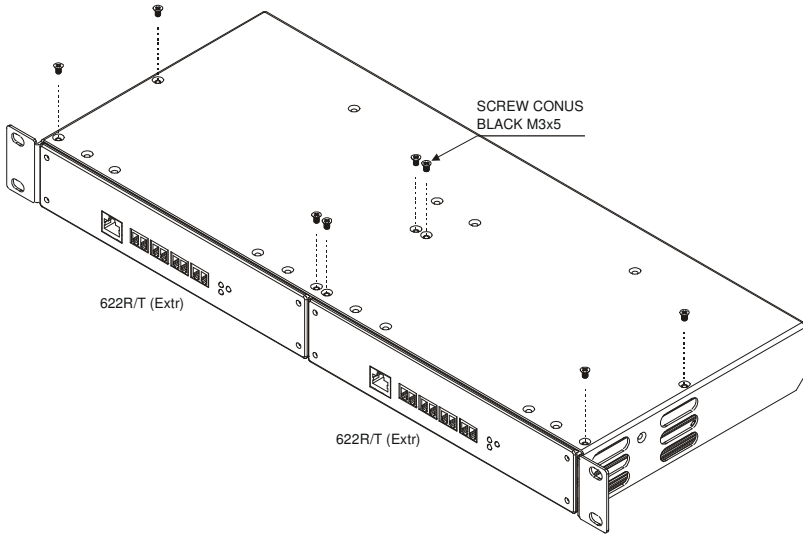

Figure 4: RK-622 Rack Adapter – Connecting the 622 (Extrusion)
3. Insert the appropriate amount of screws through the holes on the **RK-622** that fit the holes on the underside of the **622**, using the screws supplied with the unit (as illustrated in Figure 4).